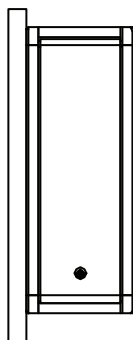

Figure 15
(2) Rotate the unit 180° on the same plane as figure 15, wait 10 seconds till the data reading is stable, then record the second angle degree.